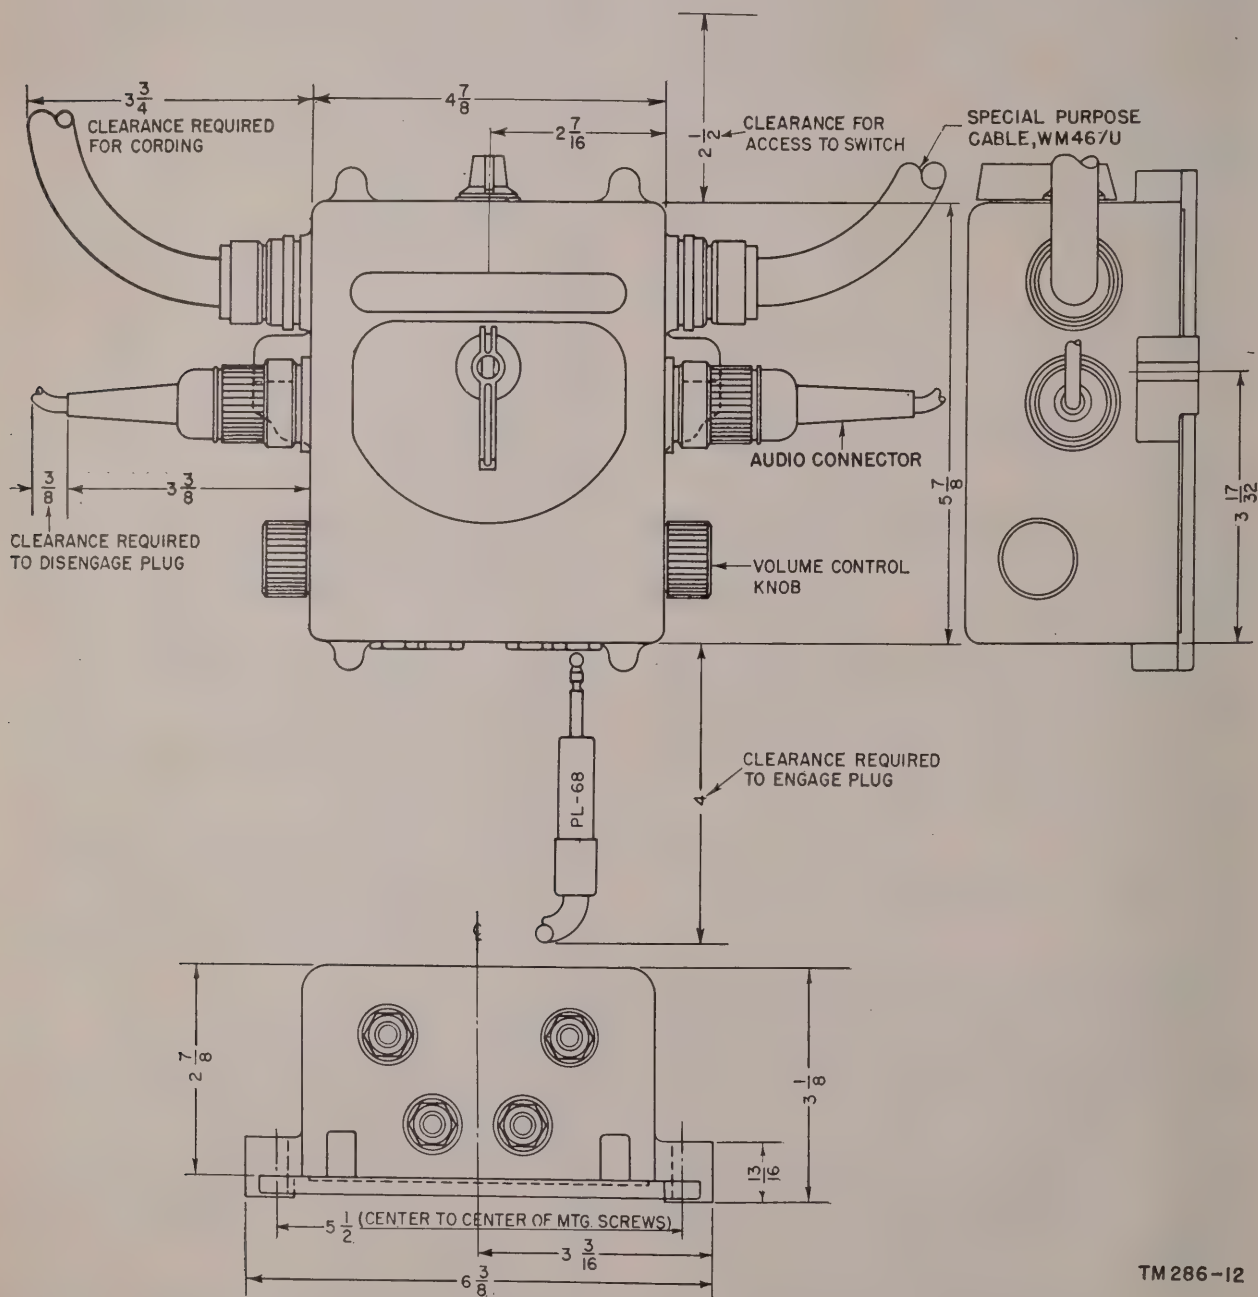

Figure 21. Control Box C-375/VRC, outline drawing.
a. Spot the location of the control boxes and drill the mounting holes. The exact location will vary from vehicle to vehicle, and must be determined from the specific instructions supplied with the installation unit. Minimum clearances which are required are indicated in figure 21. The clearances can be reduced when all of the facilities (for example, the jacks at the bottom of the box) are not required. Before mounting the units, make the connections described for each unit (*b* and *c* below).